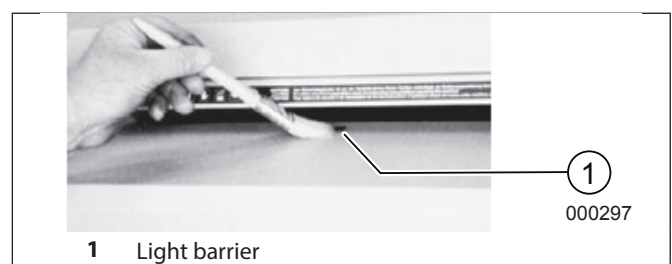

fig.4 Light barrier
The shredding operation is started as soon as a sheet of paper passes through the feed slot (fig.4).
4.1 Cleaning the photocells (Abb. 4)